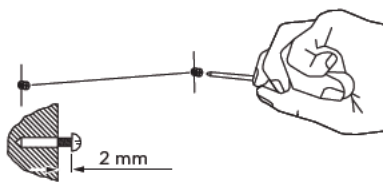

Fig.1
- Attach the upper hood mounting screws in the locations shown in Fig.2 and 3. Use the 30 mm screws and expansion plugs if attaching to masonry. Ensure that there is a 2 mm gap between the screw head and the wall - see Fig.1.